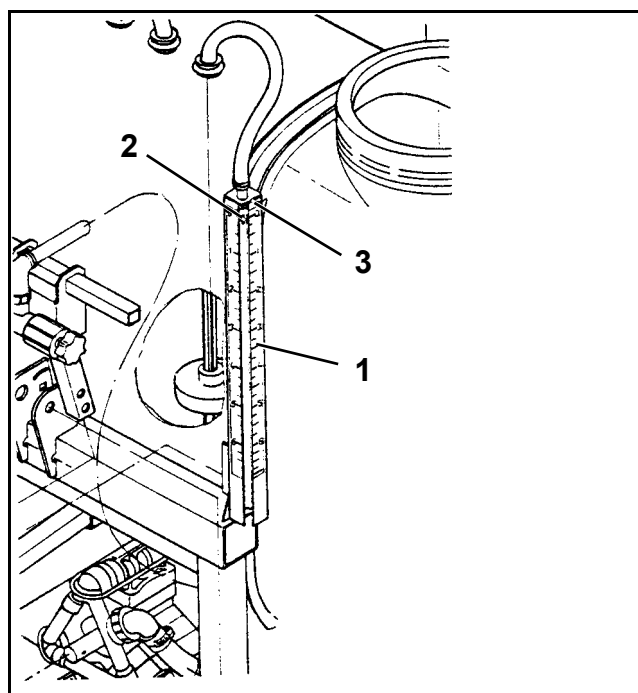

Fig. 141
- The pointer (Fig. 141/2) on the scale (Fig. 141/1) must show the scale figure "5" for 500 l.
- If the indicated level deviates from the quantity of water filled then, set the pointer (Fig. 141/2) accurately on the scale figure "5" by twisting the bolt (Fig. 141/3).